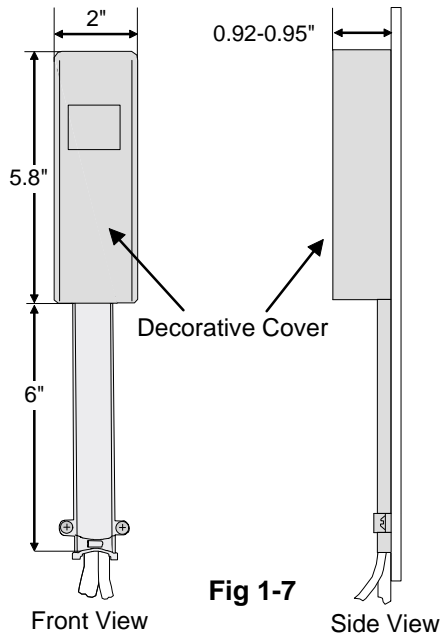

Fig 1-7
7. Apply decorative cover over wall mount bracket. For dimensions, see FIG 1-7.